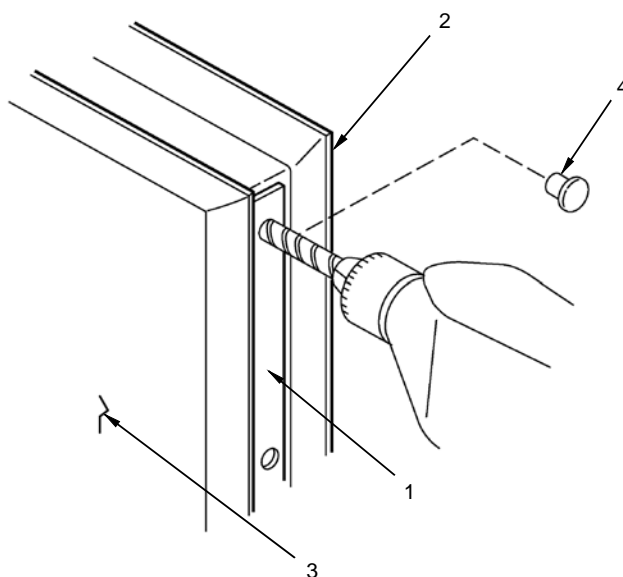

**Figure 2. Left-Hand Door C-Shaped Seal Installation**
1. Replace Gasket. Remove damaged gasket (20) from dust cap (19). Apply silicone compound to all surfaces of new gasket. Install gasket in the dust cap (19).
2. Replace Dust Cap (19). Remove damaged dust cap (19) and chain (21) from male coupling half key ring (22). Pry open key ring (22), and install dust cap with chain (21) on key ring (22).
3. Replace Chains (21) and Key Rings (22). Follow steps 5 and 6 in male coupling half replacement procedure.
**MALE COUPLING HALF REPLACEMENT** (Refer to figure 2.)
1. Stretch the C-shaped seal (figure 2, 1) over the left-hand door's inside edge (2). Make sure seal is orientated so the large, curved lip of the seal is on the outside portion of the door and extends over the end.
2. Starting from the front about eight inches above the inside bottom edge of the left door, apply a 1/8 inch bead of polyurethane sealant (figure 2, 3) down and along the C-shaped seal (1) to the end.